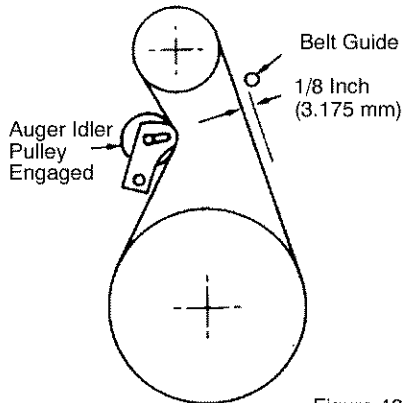

Figure 42
3. Measure the distance between the belt guide and belt. The distance should be 1/8 inch (3.175 mm) for guide. See Figure 42.